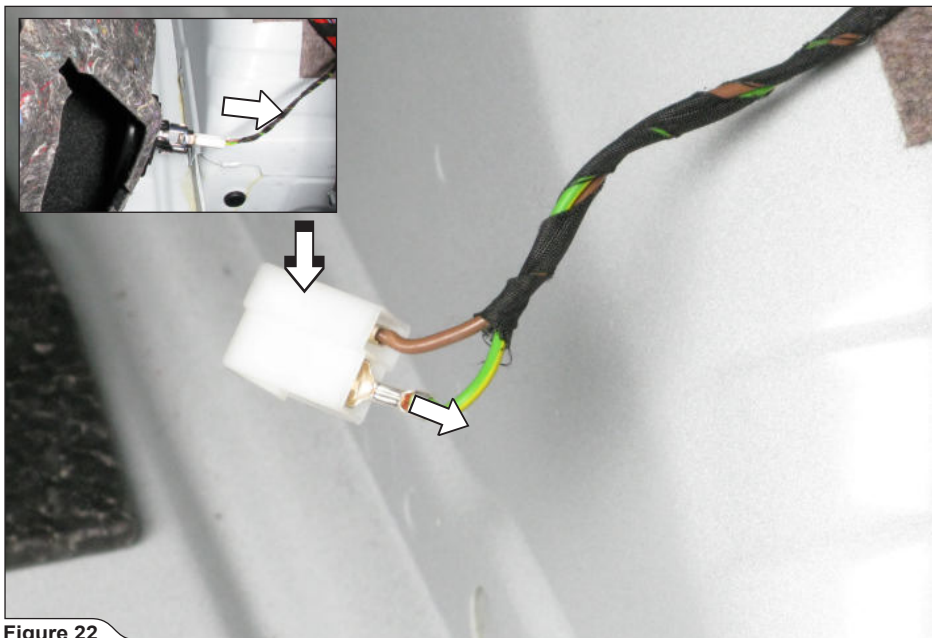

Figure 22
13. For plug-in socket powered **Wireless only**: press the **green/yellow** wire's pin and remove the pin out of the plug-in socket connector (**Figure 22**).